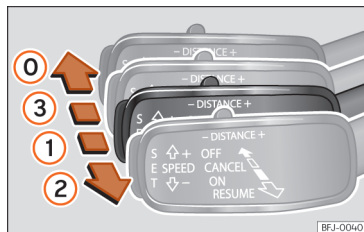
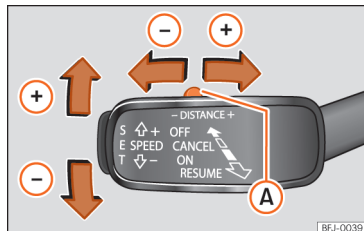

Fig. 265 On the left of the steering column: third lever for operating the Adaptive Cruise Control.
Fig. 266 On the left of the steering column: third lever for operating the Adaptive Cruise Control.
Once you are driving, if you wish to set the current speed as the vehicle's cruise speed and activate the ACC, press the **SET** »» Fig. 266 button. If you wish to increase or reduce speed by intervals of 1 km/h (0.6 mph), move the lever to position ② »» Fig. 265 or press the **SET** button, respectively.
To increase/reduce the distance level, press the rocker switch towards the left/right »» Fig. 266 A.
- To activate the ACC, with the third lever in position ① press the **SET** button or move the third lever of the ACC to position ② »» Fig. 265. At this point, the image of the
To disconnect the ACC move the lever to the ① position »» Fig. 265 (engaged). An **ACC deactivated** message appears and the function is totally deactivated.
If you do not wish to disconnect the ACC, just to switch it temporarily to inactive mode (Standby), move the third lever to position ③ »» Fig. 265 or press the brake pedal.